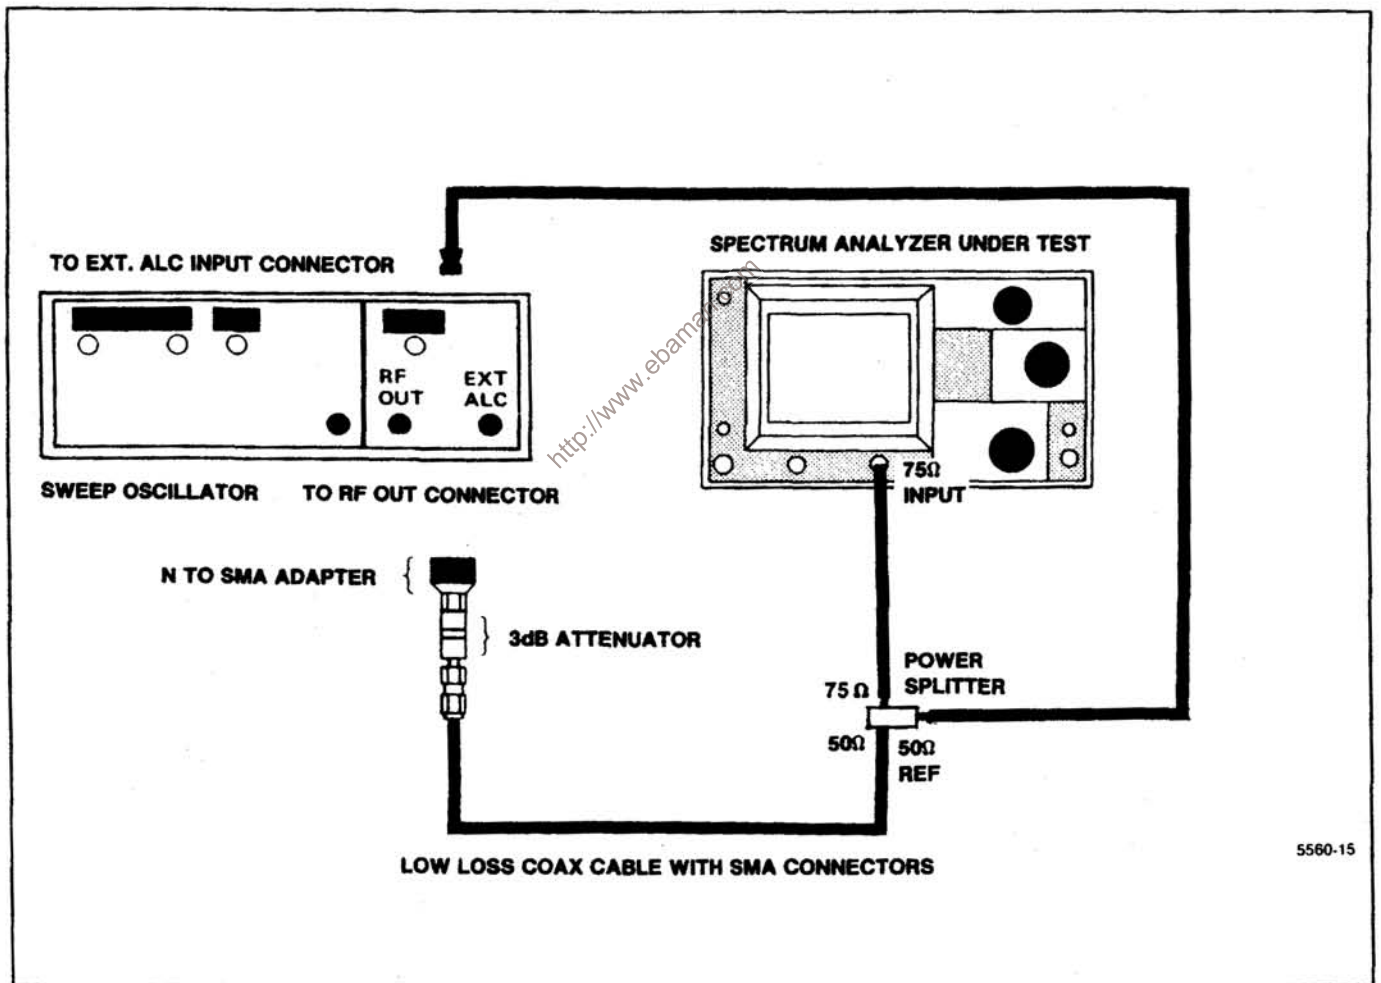

Figure 4-24. Equipment setup for checking Option 07 frequency response from 0.01 GHz to 1 GHz.
a. Connect the test equipment as shown in Figure 4-24.